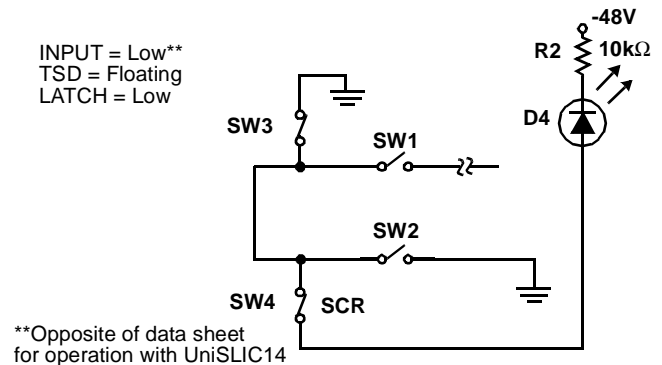

FIGURE 3. RING ACCESS AND RING RETURN SWITCH VERIFICATION
- When LED D4 is on (illuminate) and LED D3 is off, the Ring Access switch (SW4) and Ring Return switch (SW3) are both ON (Closed). Reference Figure 3.
11. Set the INPUT and LATCH switches low and the TSD switch in the floating position. Verify the Ring Access LED (D4) is on and the Line Break LED (D3) is off. This indicates that the Ring Access and Ring Return switches are ON (Closed) and are functioning correctly. Reference Figure 3.